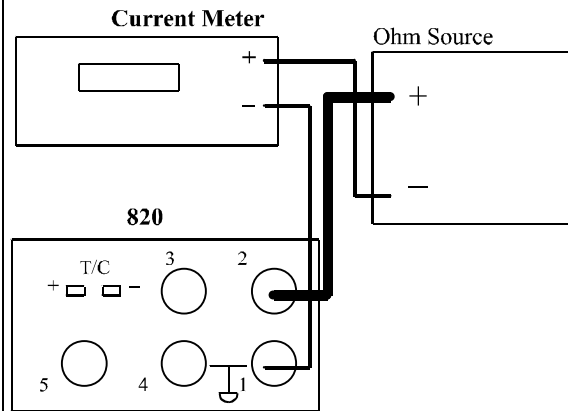

FIGURE 4
4. Hi Calibration: Connect terminals 1 and 2 from the 820 in series with a Current Meter and an Ohm Source (See figure 4). Dial the Ohm Source so the Current Meter reads 20.00mA. Press *STORE*; make sure you hear the beep, then press *SOURCE/READ*.